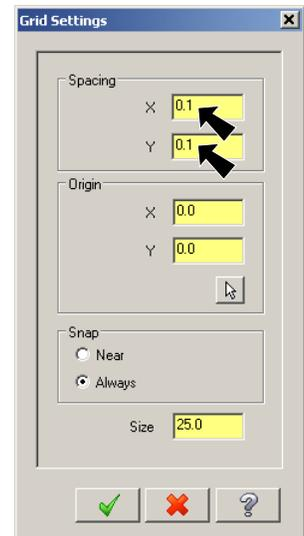

Fig. 30
Step 1. Use **Alt-G** to display Grid dialog box, Fig. 30